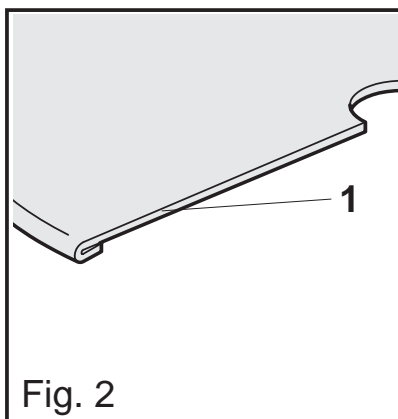

Fig. 2
- Place the container upside down. Remove residual coffee by turning the powder locking cap (5) and by knocking onto the base of the dosing system. (Fig. 2)
- Loosen the clamping ring on the handle (3). (Fig. 2)
- Carefully remove the dosing system (4). (Fig. 2)
- Lead the paper into the filter plate holder, pull approx. 15 cm over the rear edge and reinsert the roll holder. (Fig. 2)